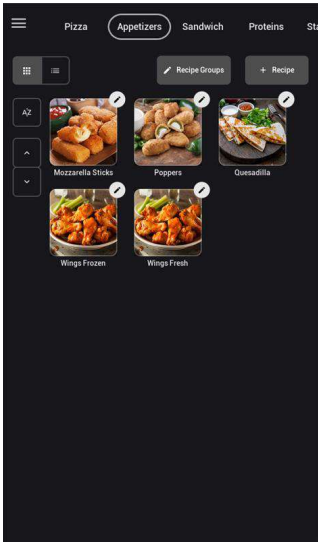

Figure 20: Select Group to Edit
- 1. Touch the Edit button next to a group on figure 20.